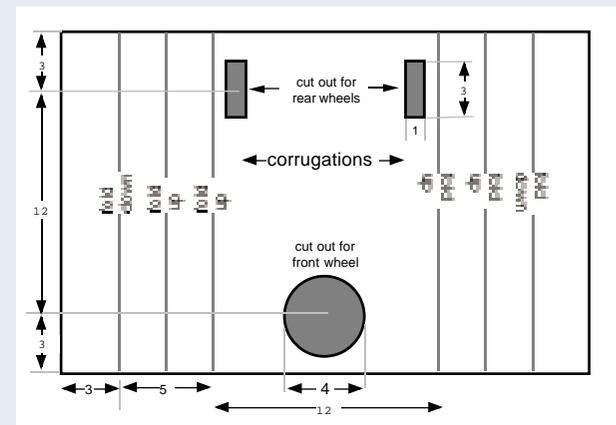

Figure 2. Aircart base.
1. Base (Fig. 2): The base may be cut from an 18cm x 28cm piece of corrugated cardboard. The aircart is build up from this base; wheels attach to it and the motor is mounted on it. Cut out the base, and score the folds. Fold the sides to make triangular beams. The flaps should meet in the center and cover the front wheel hole. Mark this hole on the flaps and cut out the semicircles. Glue carefully, the angles must be 60 degrees or the aircart sides won't fit right.